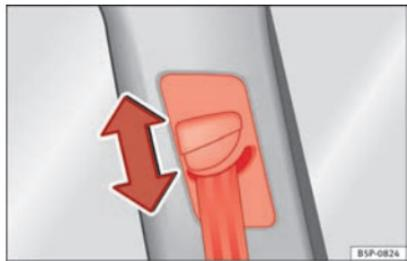

Fig. 15 Location of the belt height adjuster.
- Press the upper part of the shoulder belt guide and hold it in this position ⇒ Fig. 15.